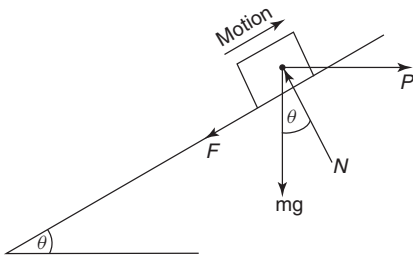

Figure 15.8
This motion, together with the primary forces, is shown in Figure 15.8.
in Figure 15.8, determine the value of  $P$  that will just cause motion up the plane.
9. Determine  $P$  for Problem 5, if it were acting in the direction shown in Figure 15.8. [ $P = 438.6 \text{ N}$ ]